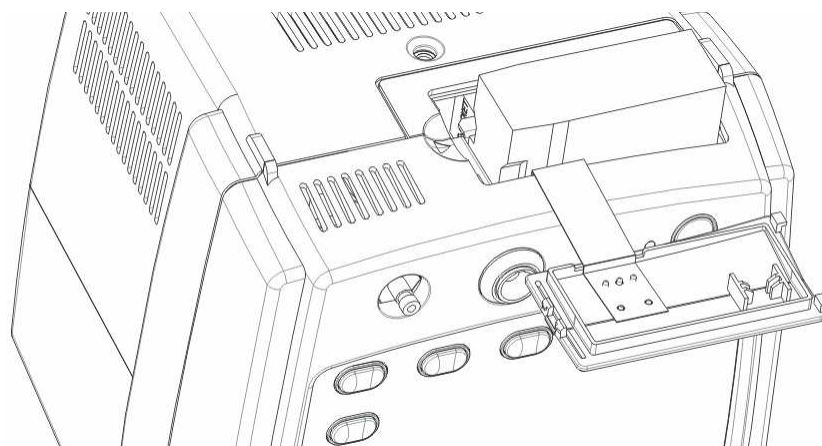

Figure 3-2
3. Follow the marked polarity to insert the battery into the compartment, as Figure 3-2 shows.